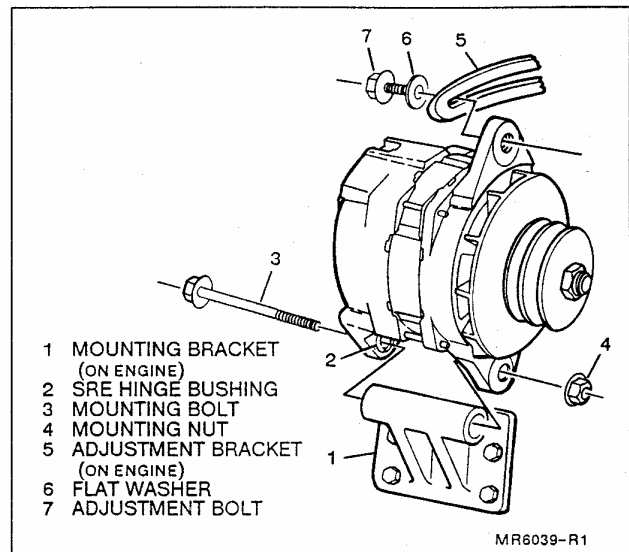
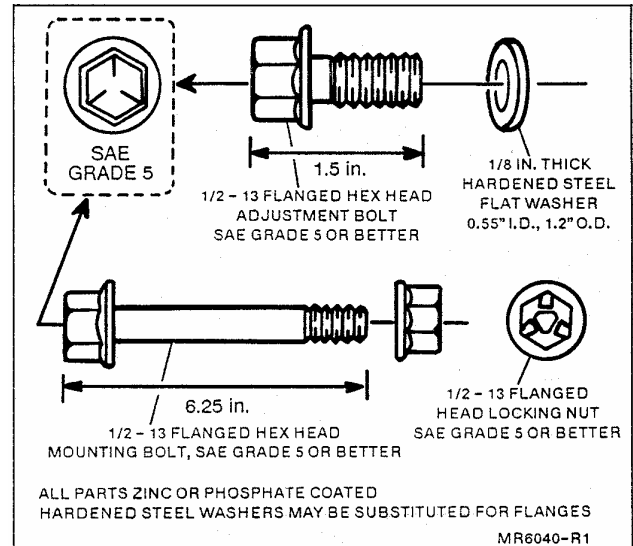

Figure 10. Installing Generator on Engine
Figure 11. Generator Mounting Bolts
3. Generator double mounting lugs to mounting bracket on engine (Fig. 10). Adjust hinge bushing in mounting lug by tapping endways until it just clears the spool on the mounting bracket. Install flanged mounting bolt and flanged mounting bolt nut. If bolt and/or nut are not flanged, 1/8" thick hardened steel washers (part no. 1967343) must be substituted for flanges (Fig. 11).